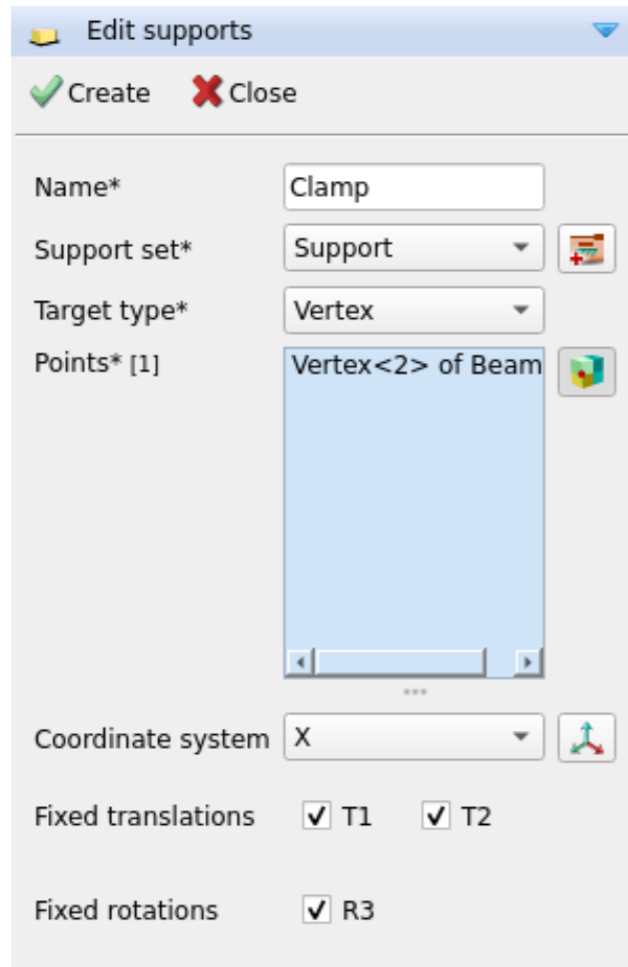
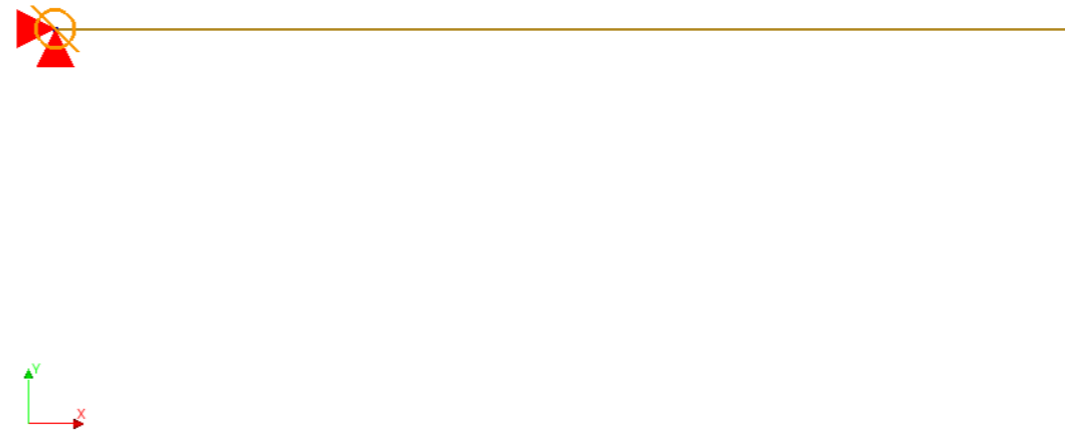

Figure 12: Clamp the left end
Figure 13: View of model - supports
**Main menu** → Geometry → Assign → Supports  [Fig. 12] [Fig. 13]